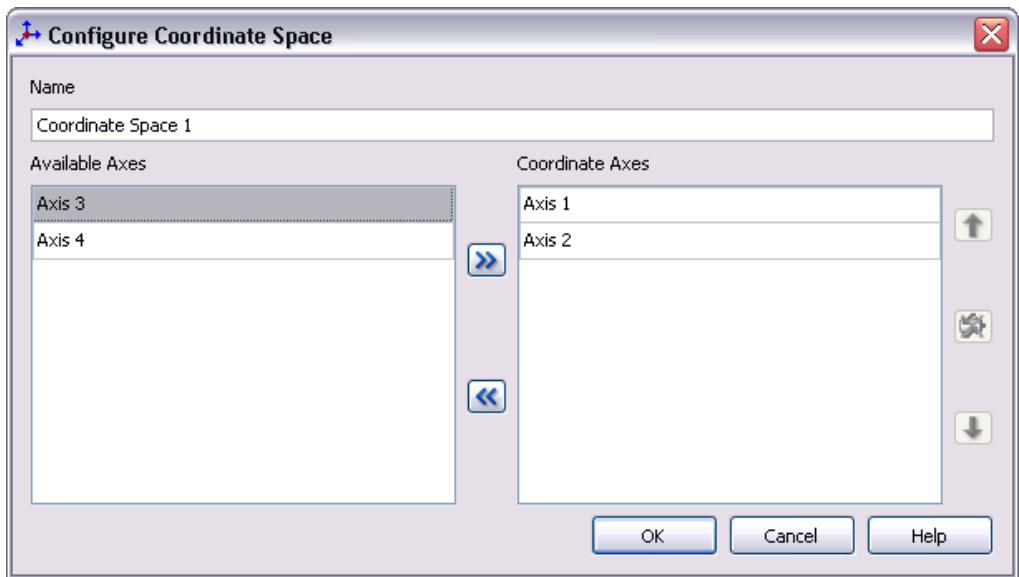

Figure 4. Configure Coordinate Space Dialog Box
1. Right-click **My Computer** in the **Project Explorer** window and select **New»NI SoftMotion Coordinate Space** from the shortcut menu to open the **Configure Coordinate Space** dialog box, shown in Figure 4.